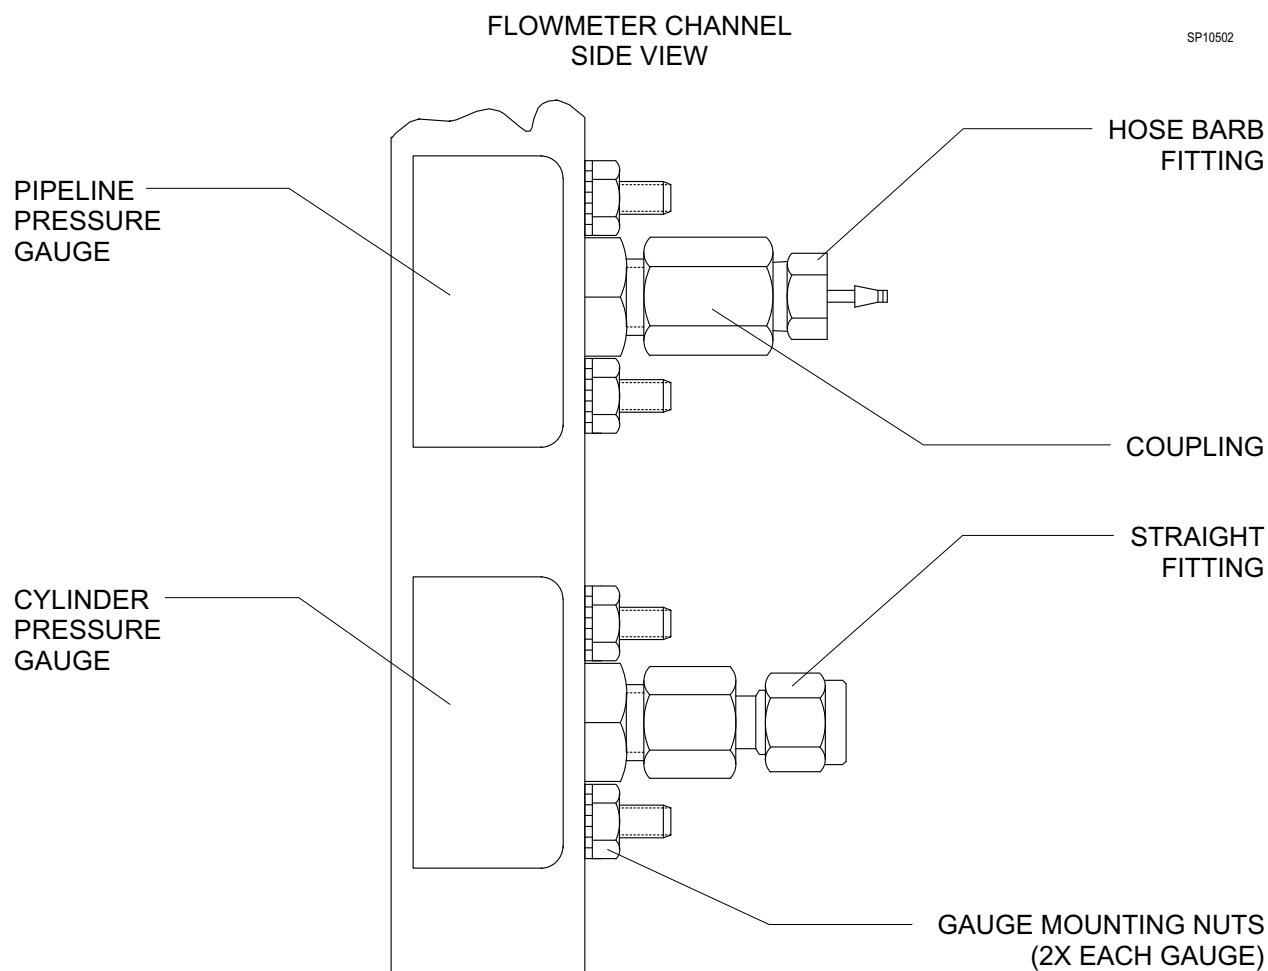

Figure 2: PIPELINE AND CYLINDER GAUGE ASSEMBLY AND MOUNTING
39. Apply a small amount of Loctite #271 (red) to the threads of a 1/16 in. hose barb (P/N 4111771) and pipeline pressure gauge (P/N 4110575-001). Assemble the fittings with coupling (P/N 4103668) as shown in Figure 2.
40. Place the pipeline gauge assemblies into the upper holes of the gauge channel and secure each gauge with two 10-32 kep nuts (P/N HW55002 x2). See Figure 2. Reuse the original hardware to secure the O₂ and N₂O gauges.